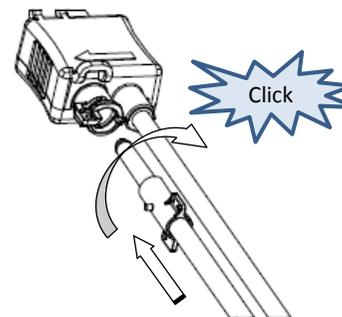

Figure 2
- Slide the coil cable into the enclosure. (Fig. 2)